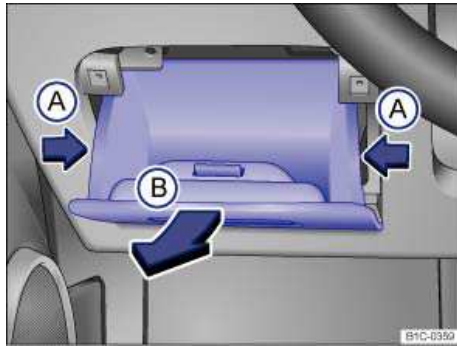

Fig. 164 On the driver side in the instrument panel: Storage compartment in front of the fuse box.
- Open the storage compartment ⇒ fig. 164, *Storage areas*.
- Press the sides of the storage compartment in slightly ((A) arrows) while pulling back firmly ((B) arrow).
- To **install**, guide the cover from the bottom into the instrument panel and push in the direction opposite to the arrows (A), then push forward until you can hear it latch into place.